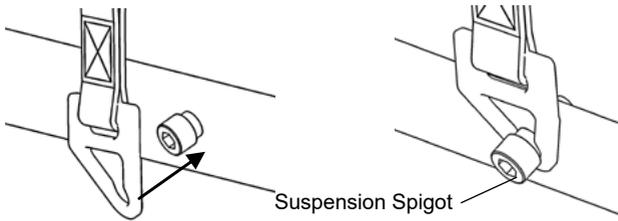

Fig. 13
6. Attach each of the four suspension straps to the suspension spigots on the splints as illustrated. (see Fig. 13).
Ensure all of the four attachment brackets are orientated in the correct location (See Fig.13) and that they are securely attached. This will be confirmed when the attachment bracket 'snaps' onto the suspension spigot attached to the Splints.